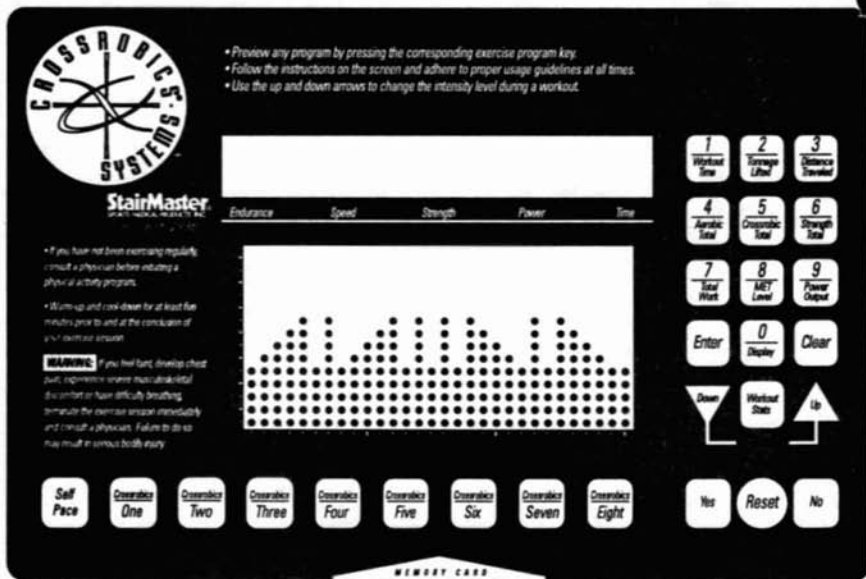

Figure 4: Crossrobics One
- Crossrobics One is a 30-interval exercise program with gradual speed changes (refer to Figure 4). This program is well-suited to short, low-intensity workouts.